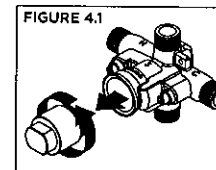

FIGURE 4.1
- 2) Remove test cap from valve (FIGURE 4.1).